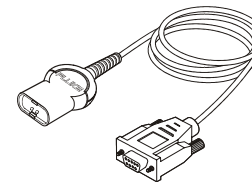

Fig. 1. PM9080
- PM9080 Optically Isolated Interface Cable (Fig. 1)